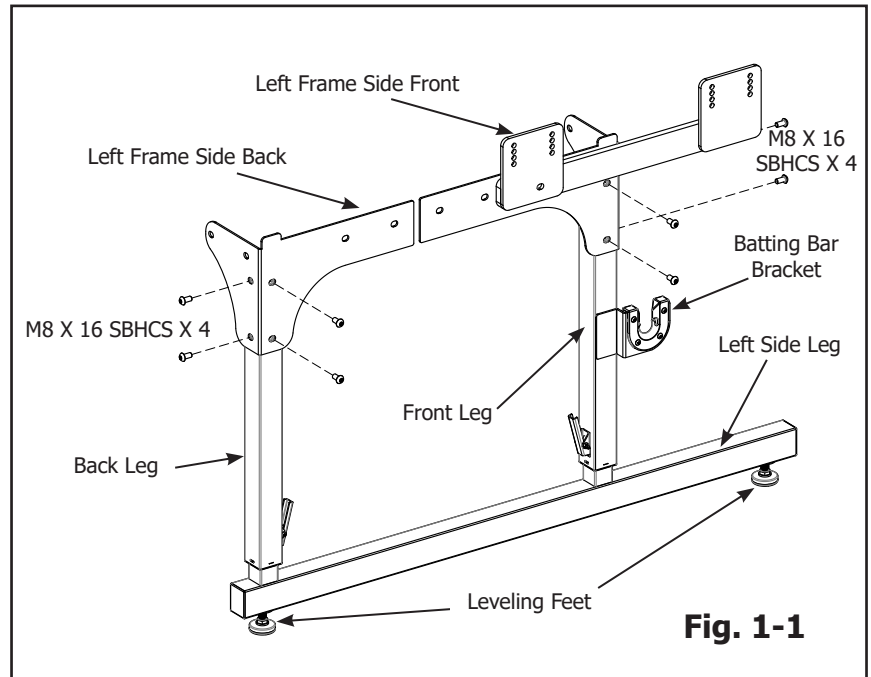

Fig. 1-1
Remember that the batting storage pole bracket needs to be on the outside of the leg. (Fig. 1-1)
- 1-1:** Screw two (2) leveling feet into the bottom of the left side leg about half way, as shown in Fig 1-1. This will make leveling easier later on.
- 1-2:** Attach the left frame side back onto the side leg with two (2) M8x16mm SBHCS screws into the back of the back leg. Next install two (2) more M8 x 16mm SBHCS screws into the side of the back leg. Finger-tighten the screws only for now. You will tighten the screws with an Allen wrench later in **step 4-9**.
- 1-3:** Attach the left frame side front onto the side leg using two (2) M8 x 16mm SBHCS screws into the front of the front leg. Next install two (2) more M8 x 16mm SBHCS screws into the side of the front leg. Finger-tighten the screws only for now. You will tighten the screws with an Allen wrench later in **step 4.9**.